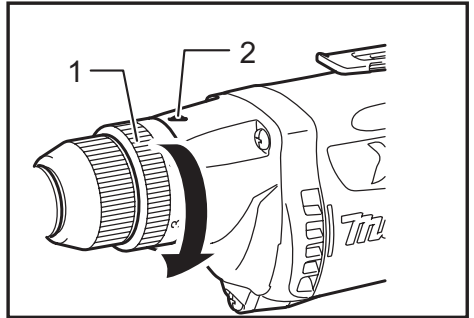

Fig.7
► Fig.7: 1. Adjusting ring 2. Pointer